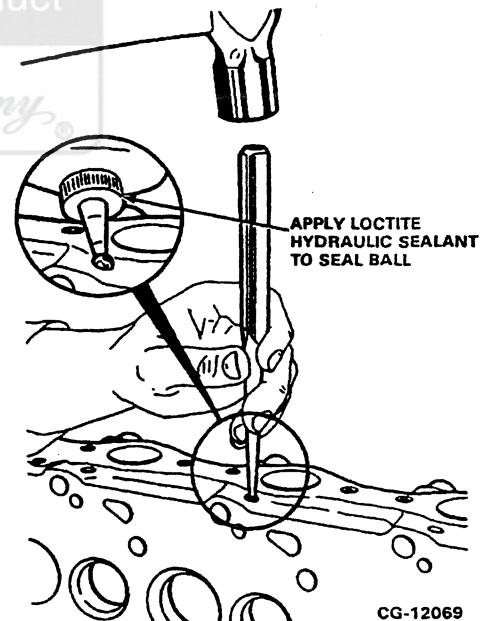

Figure 3.26D. Installing a New Steel (Seal) Ball
1. Install a new 13/32 in. steel (seal) ball as follows: (Refer to Figure 3.26D).